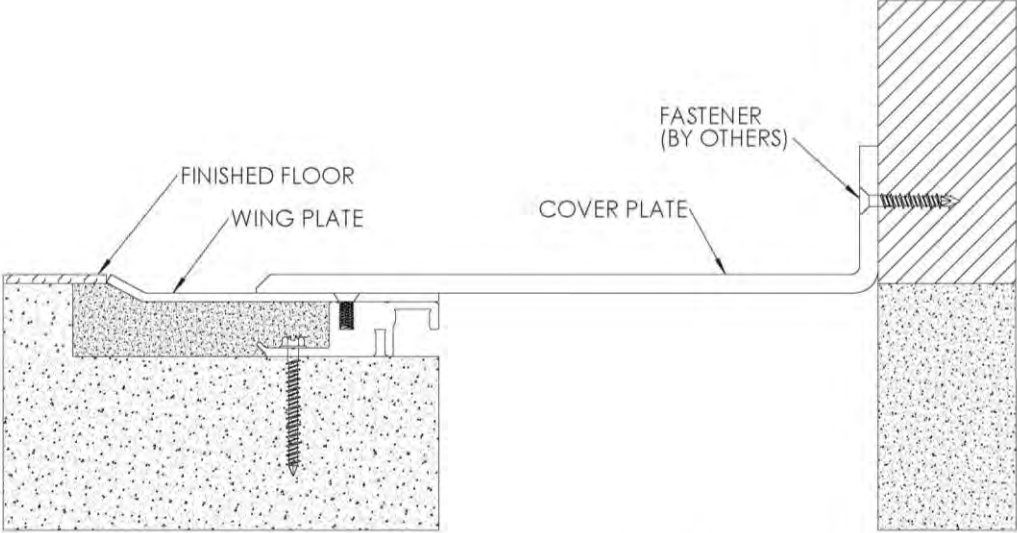

FIGURE 13
- 6. Position cover plate against wall as shown, making sure the top of its horizontal face is level when set on the wing plate. Attach plate to wall using appropriate 3/16" fasteners for the wall type, 18" o.c. *Note: Wall fasteners are not provided. See Figure 13*